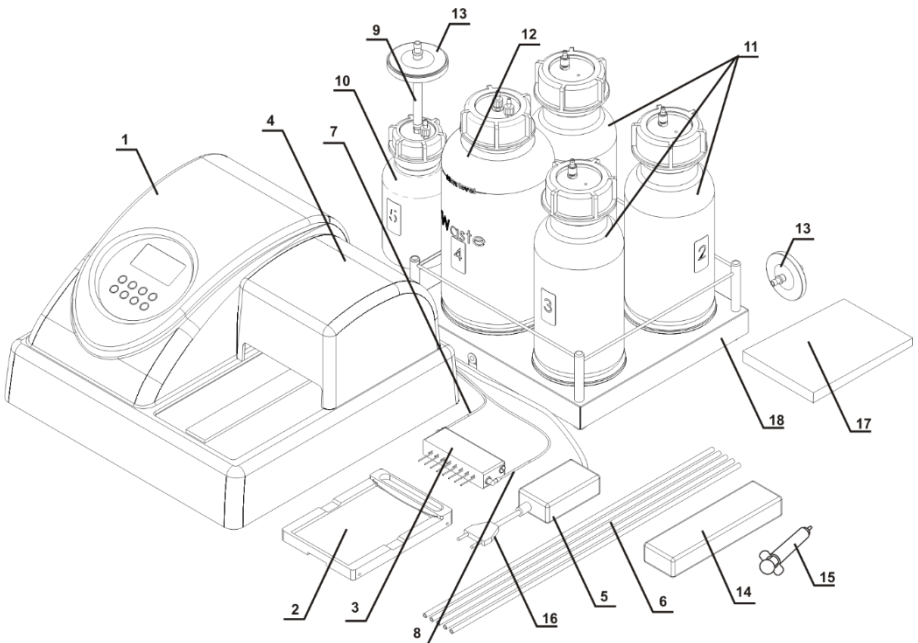
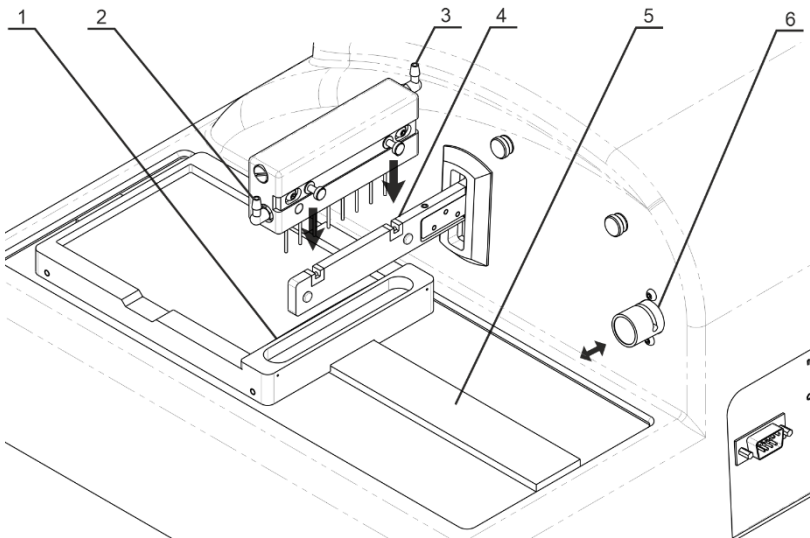
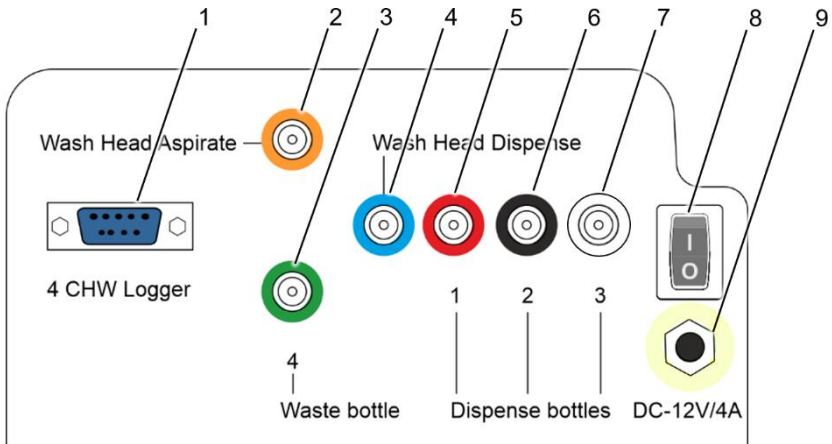
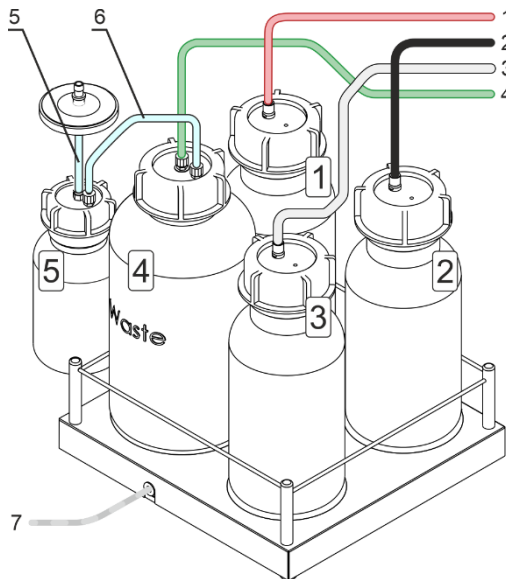

Figure 1. Complete set
Figure 2. Unit side and back overview. Setting up.
Figure 3. Rear panel
Figure 4. Bottles and tubing.
- 4.2 **Complete set.** Numbers in the first column correspond to numbers on Figure 1.
- Unpack the plate platform (fig. 1/2).
- Place the plate platform on the railing (fig. 2/5) so that the plate holder (flat spring) faces the rear side of the unit (fig. 2/1). Magnet on the other side of the rail locks the platform into start position.
- Install the manifold in the slots of the holder arm (fig. 2/4). Magnets in the manifold and the holder arm connect and align the manifold.
Note. All tubes (fig. 1/6–1/8) and fittings (fig. 3/2–3/7) are colour-coded. Ensure that the tubes are connected securely.
- Align the thin tube with a blue stripe (fig. 1/7) with the slot on the upper side of the valve (fig. 2/6).
- Push the valve inside (fig. 2/↔), stretch and insert the tube through the slot.
- Install the protective cover (fig. 1/4). Ensure that manifold tubes are covered but are not squeezed.
4 CHW Logger adapter cable (fig. 4/7, if in use)	4 CHW Logger connector on the rear panel (fig. 3/1)
Caution! Before connecting the unit to the mains outlet, check that the power switch (fig. 3/8) is in position **O** (off).
- Connect the external power supply to the power socket (fig. 3/9) on the rear panel of the unit.
- Connect the power cord to the external power supply (fig. 1/16)
- Switch on the unit (position **I**) using the power switch (fig. 3/8) on the rear panel.